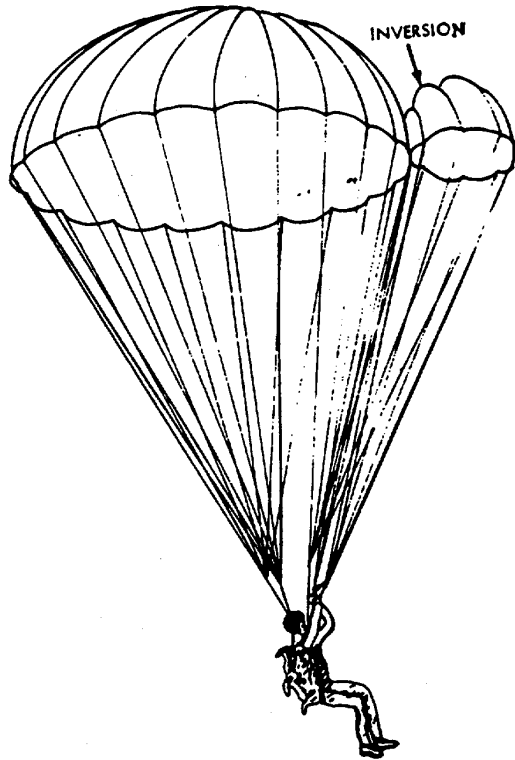

Figure 2-16. Partial Inversion of the Canopy.
(1) Partial inversion of canopy. A partial inversion will increase the rate of descent 2 to 3 feet per second. The skirt of a partially inverted canopy forms a figure 8 when viewed from below (fig. 2-16).